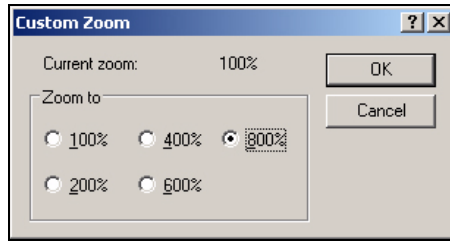

Figure 5-40: Custom Zoom
- 2 Navigate to *View > Zoom > Custom*. The *Custom Zoom* (see Figure 5-40 on page 5-47) dialog box appears.